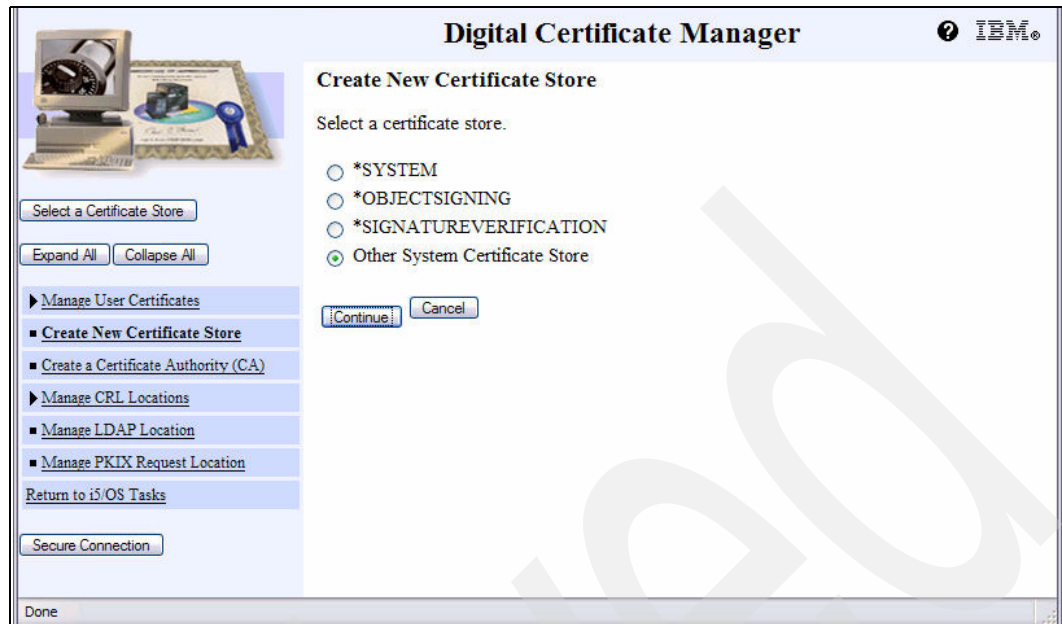

Figure 7-10 DCM Create New Certificate Store screen
2. Select **Create New Certificate Store** with choosing the option **Other System Certificate Store** as shown in Figure 7-10.